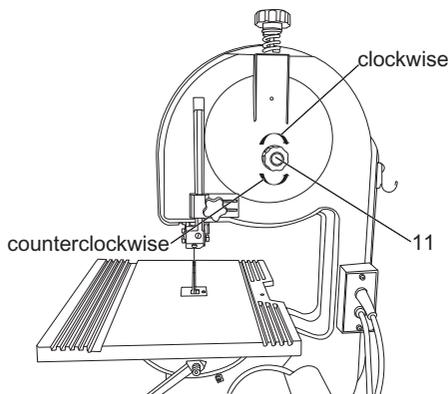

Fig. 15
- > If the blade tends to run to the back of the blade pulley, i.e. towards the machine frame, turn the setting screw (11) anti-clockwise while turning the blade pulley by hand until the blade runs in the middle. (Fig. 15)
- > If the blade tends to run to the front edge of the blade pulley, turn the setting screw (11) in a clockwise direction. (Fig. 15)